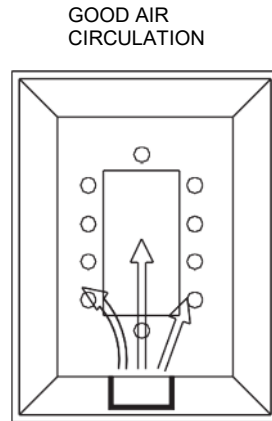

Figure 11
- (1) Select a location that permits the air flow to circulate evenly throughout the room. See figure 11 and 12